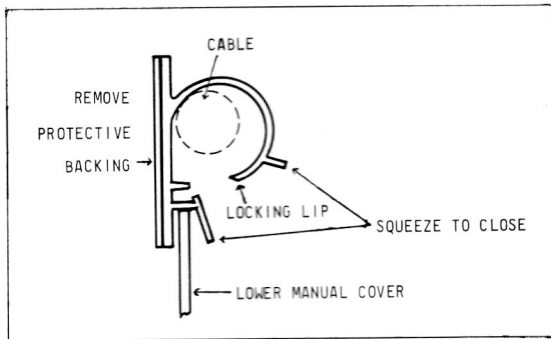

FIGURE 1-2.
To install clips (See Figure 1-2):
2. Install as shown in Figure 1-2.
- 2. Install as shown in Figure 1-2.